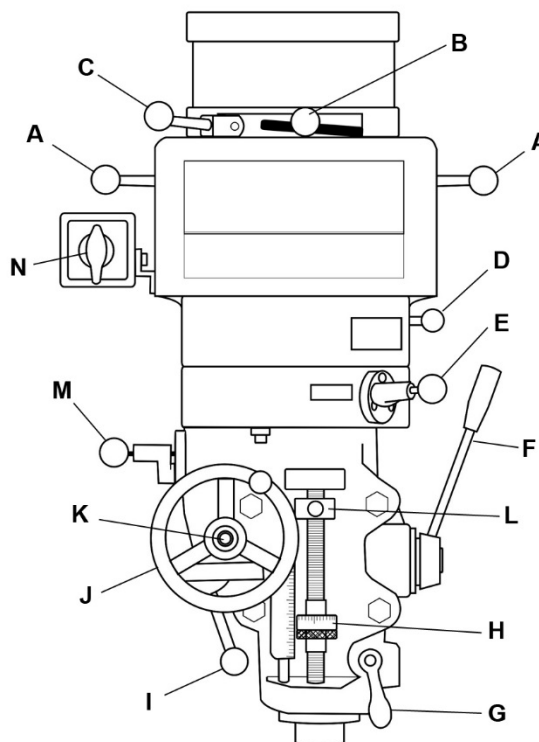

Figure 5: controls
Refer to Figure 5:
- A. **Motor Lock (Belt Tension) Levers** (A, Figure 5) – Slide levers to loosen motor mounting; shift motor to release tension on belts and reposition belts for different speed range.
- B. **Speed Range Selector** (B) – Mill is in high speed range when selector is in front position